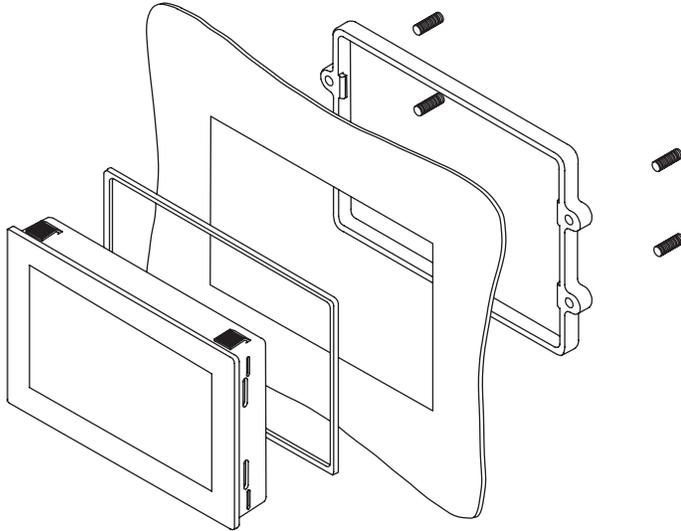

Figure 1
3. For panels between 0.01" and 0.15" (0.5 an 4 mm) in thickness, place the gasket around the bezel of the display, slide the display through the front hole in the panel, and attach the mounting clip from the rear, as shown in Figure 1.